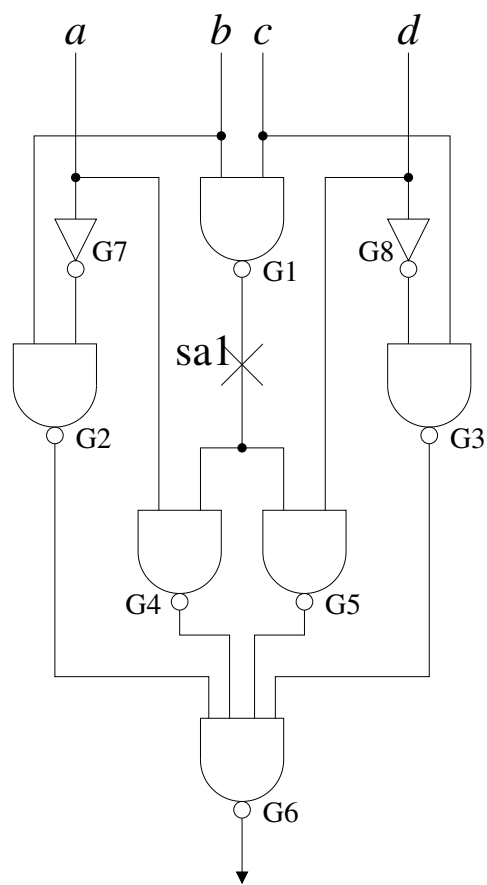

Figure 5: Faulty circuit
- Consider the circuit from Figure 5 and briefly forget that a stuck-at-1-fault has been plotted already. Mark all the places in the circuit where a stuck-at fault can occur. So how many different single stuck-at fault have to be considered when testing the circuit?
- Try to generate a test for the stuck-at-1-fault (sa1) in the circuit depicted in Figure 5. Sensitize the fault first and then try to propagate the fault effect to the output. Please remember that you may need to sensitize several paths in order to propagate the fault effect to the output.